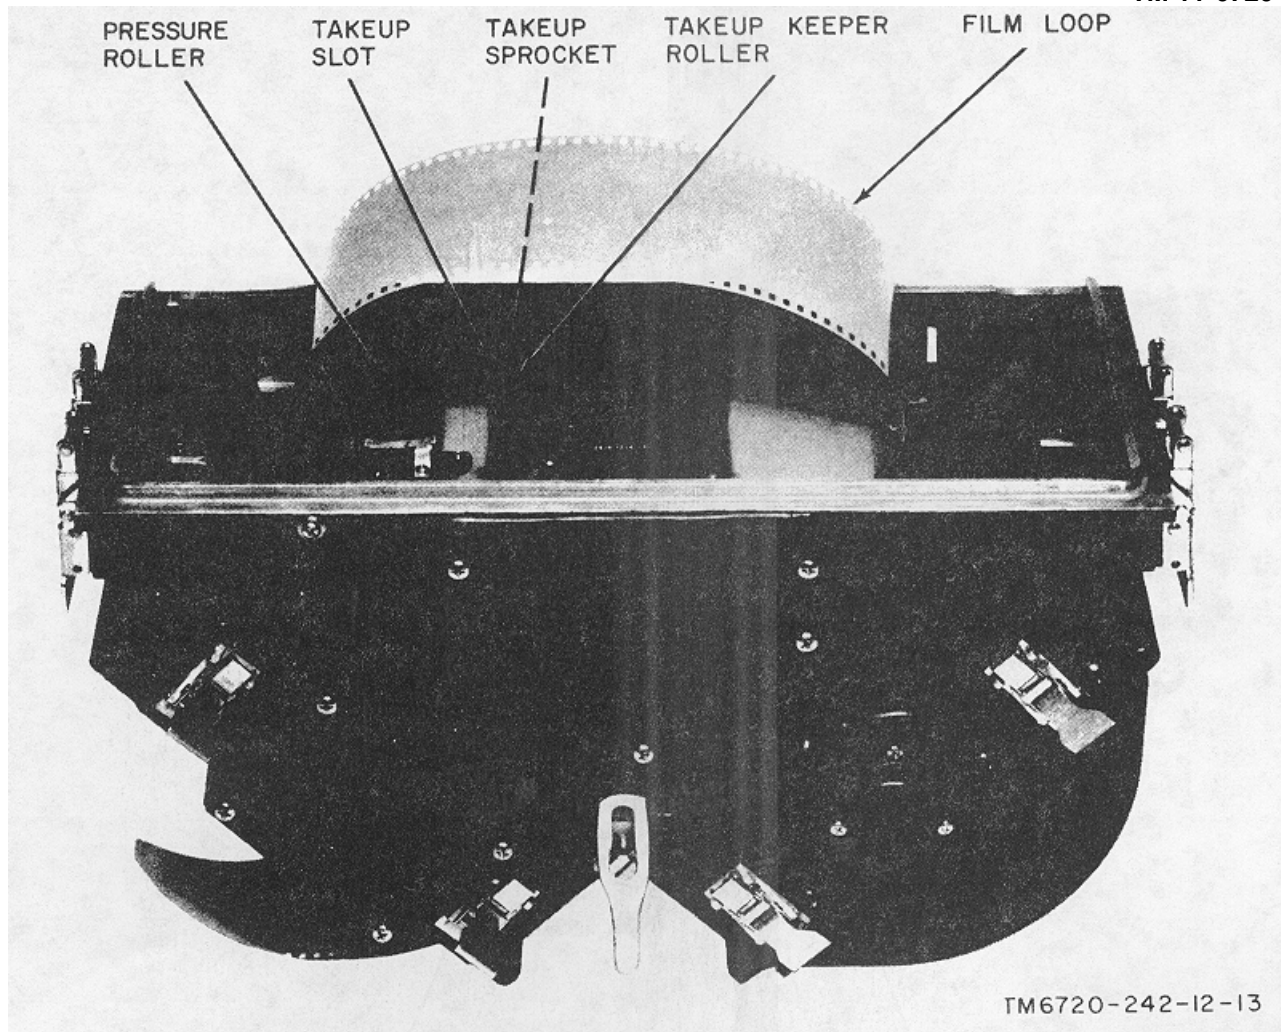

Figure 3-6. Routing of film, subdued light. .
- c. Guide the film leading edge over and around the pressure roller, and then between the takeup keeper idler and takeup sprocket and into its take-up slot (fig. 3-6).